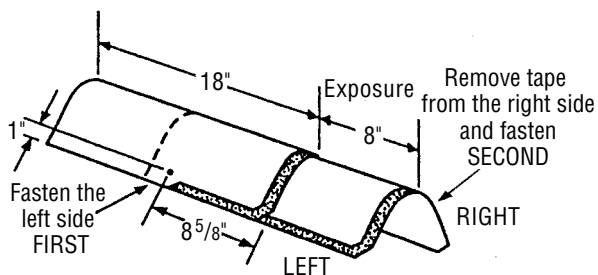

Figure 17-19: Installation of Shingle Ridge shingles on hips and ridges.
- Fasten each cap with two fasteners (Figure 17-19). The fasteners must be  $1\frac{3}{4}$ " long, or longer, so they penetrate either  $\frac{3}{4}$ " into the deck or completely through the deck, exposing at least  $\frac{1}{8}$ " of the tip of the nail. Expose 8" of the Accessory along the ridge or hip line and cover all fasteners.